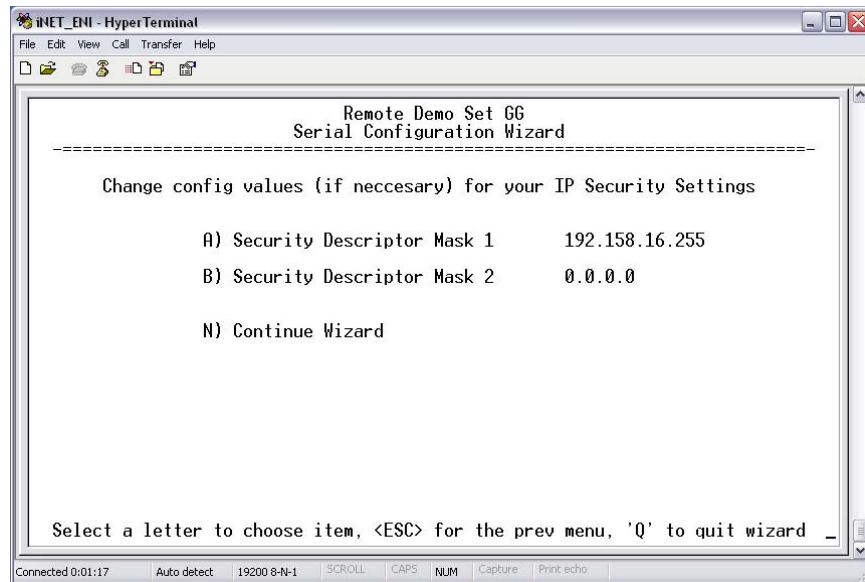

Figure A-3. Change Security Descriptor Mask
1. Press **A** if you want to change Security Descriptor Mask 1 from its default of **0.0.0.0**. In Figure A-3, Security Descriptor Mask 1 was changed to **192.158.16.255**. Press **B** if you want to change Security Descriptor Mask 2.
Use the Security Descriptor Mask to control which IP addresses can access the serial device connected to the iNET/ENI. Values of 0 and 255 are considered "open," meaning any value in that position of the IP address is accepted. For example, the default value of **0.0.0.0** (or a value of **255.255.255.255**) would allow any IP address to access the device. In Figure A-3, only IP addresses beginning with 192.158.16 can access the device.